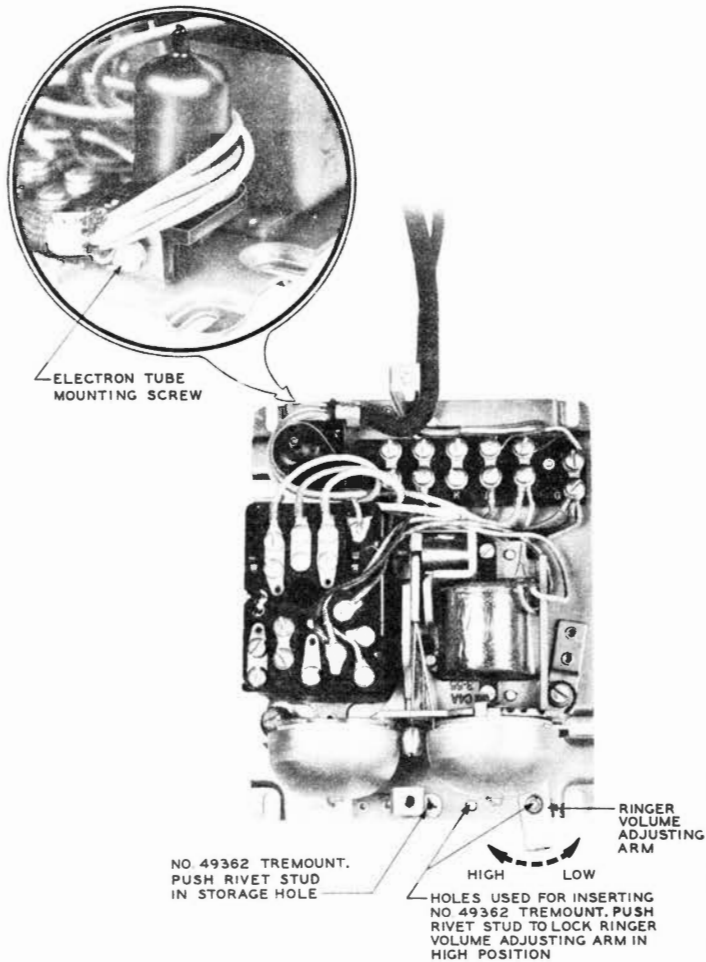

Fig. 9 — Wire and Mounting Cord Terminated in 685- and 686-type Subscriber Sets
5.09 Fig. 9 shows a typical method of terminating wire and mounting cord in 686-type subscriber set. The method of securing mounting cord in 685-type subscriber set is also shown in Fig. 9.
5.13 Ringer volume control on 685-, 686-, and 687-type subscriber sets normally comes locked in the high position. To enable customer to adjust ringer volume, place 49362 Tremount push rivet stud in the storage hole (shown in Fig. 9).